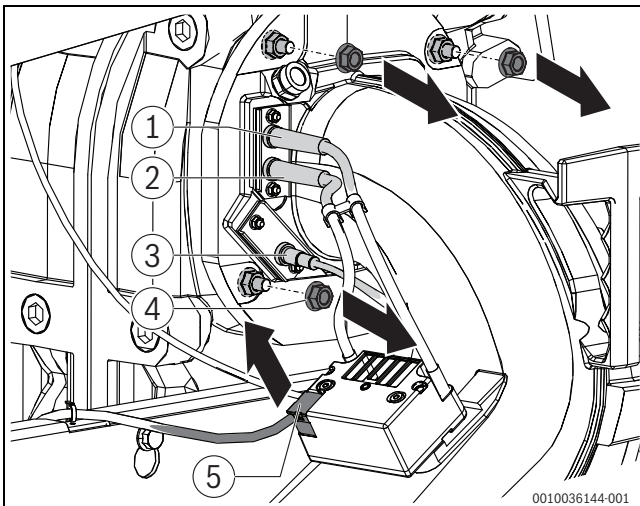

Fig. 58 Undo the connecting cable and nuts on the ignition transformer
- Undo the connecting cable on the ignition transformer (→Fig. 58, [5]).
- Remove the 4 fixing nuts (→Fig. 58, [4]) at the top on the mixture manifold.